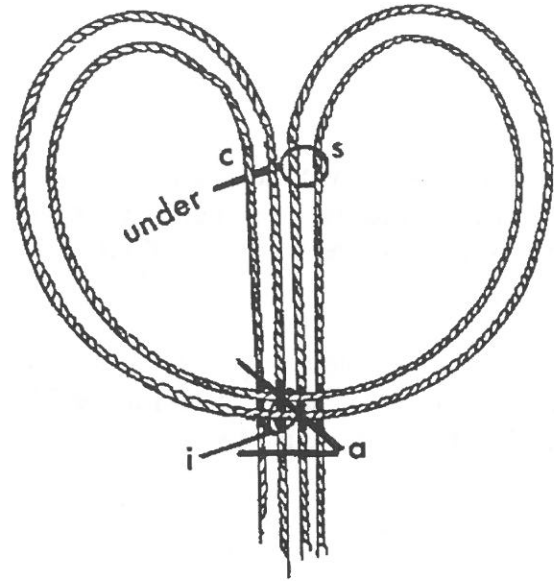

Figure 3
3. With left hand, go down through **LEFT** loops and **UNDER** ropes at "c" and **GRASP** **RIGHT** loop at "s" as shown in Figure 3.